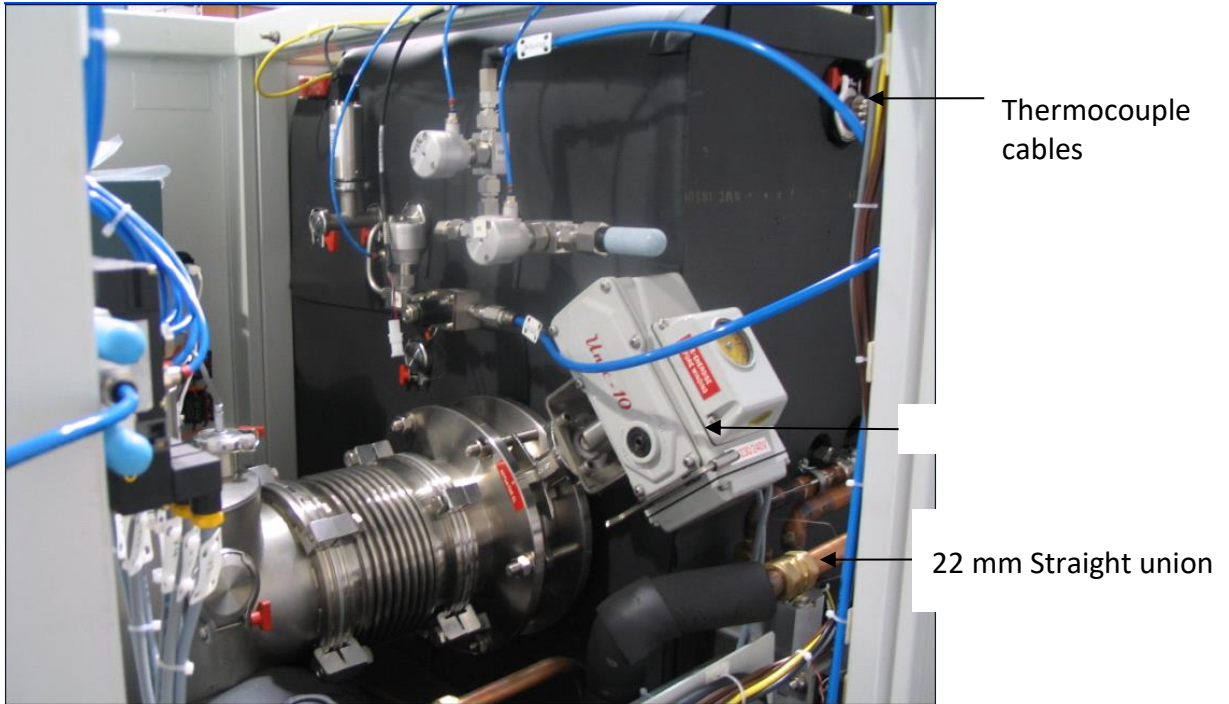

Figure 1
1. Unplug all of the (brown) Thermocouple cables from the top rear of the drying chamber unit (see figure 1).